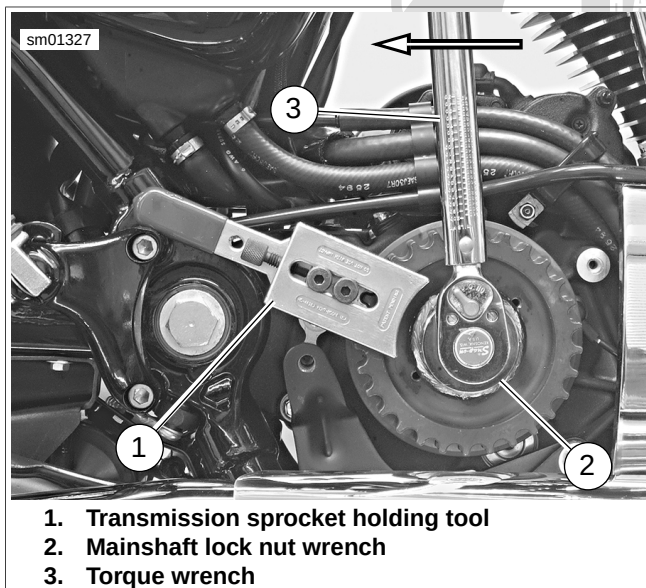

Figure 5-111. Tightening Transmission Lock nut: All Models (XL Model with Passenger Footrests Shown)
2. Shift transmission into neutral. Apply a few drops of LOCTITE THREADLOCKER 262 (red) to the **left-hand threads** of transmission sprocket nut (3). Apply a thin film of clean Harley-Davidson 20W-50 engine oil to the back face of the sprocket nut. Turn the nut **counterclockwise** to install it onto main drive gear shaft.
- a. See Figure 5-111. Use TRANSMISSION SPROCKET HOLDING TOOL (Part No. HD-46282) (1), MAIN-SHAFT LOCK NUT WRENCH (Part No. HD-46288) (2), and a torque wrench (3). Place handle of sprocket holding tool on top of footrest bracket. Tighten nut to 50 ft-lbs (68 Nm) initial torque, **ONLY**.